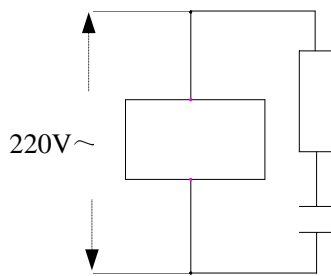

fig.1-5
- 3: Noise suppressor: Parallel connect RC-type loop with AC coil (as fig.1-5) and RC-type loop must be as near